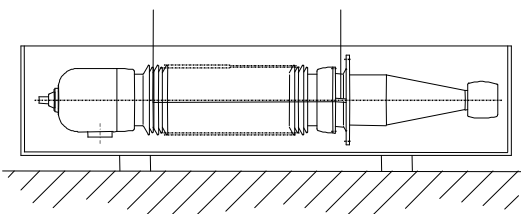

Fig. 11a
- Apply a rope at the two lifting holes (screwed eyebolts) on the flange and fasten it with a string around the upper sheds of the porcelain (from second and third) (fig. 11a).
- Apply a second rope at the same two lifting holes (fig. 11a).
Apply the second rope at the two lifting holes (fig. 11a).